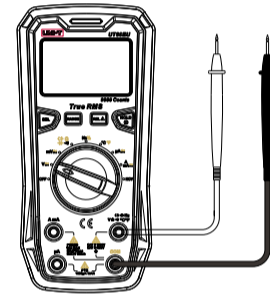

Figure 2
1. AC/DC Voltage Measurement (Figure 2)
2. Continuity Test (Figure 2)
3. Resistance Measurement (Figure 2)
4. Diode Test (Figure 2)
5. Capacitance Measurement (Figure 2)
6. Frequency Measurement (Figure 2)
7. Duty Cycle Measurement (Figure 2)